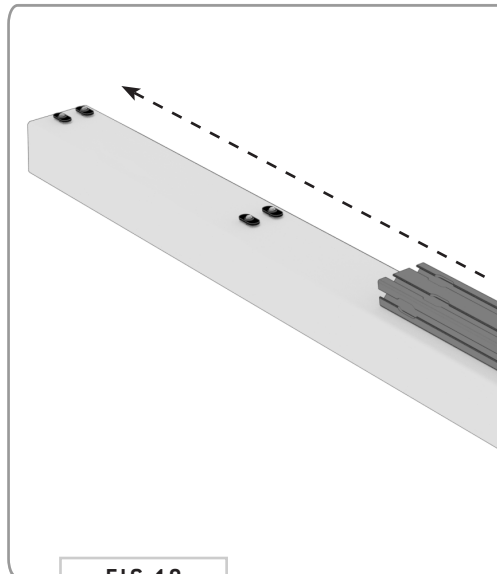

FIG 19
6.2 Crossbar Install: Now, slide the Crossbar onto the Rear Spoiler. You'll have to straighten each T-Nut as you go to get it to feed into the Crossbar correctly (FIG 19). After sliding the Rear Spoiler and Crossbar together, tighten all fasteners.